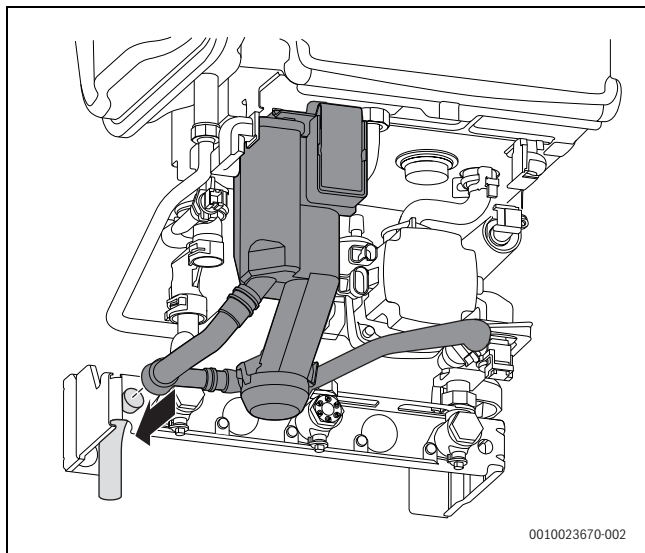

Fig. 54 Condensate connection
- Refer to Fig. 54, condensate connection: